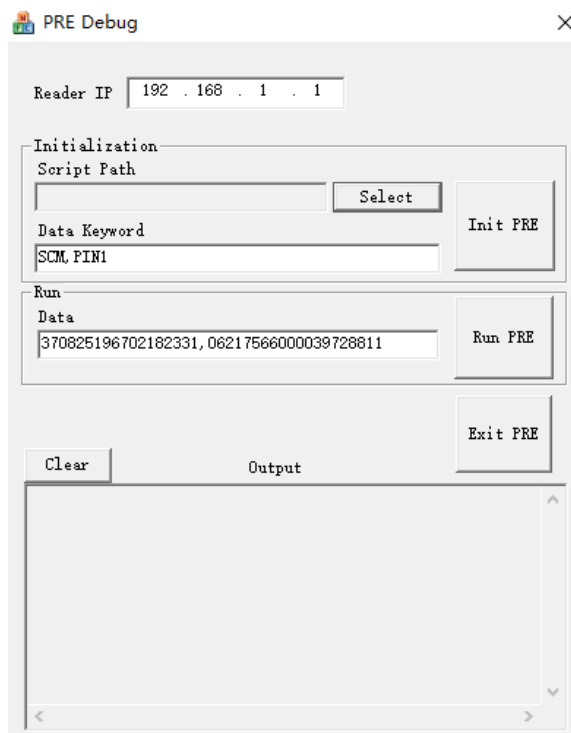

Figure 5.1 PRE Debugging Interface
- 3) Run the PREDebug program. The interface is shown in Figure 5.1.
- 4) Enter the IP address of the test reader in "**Reader IP**" in the interface shown in Figure 5.1. The default IP address is "192.168.1.1".